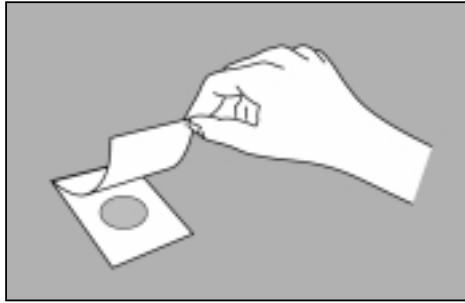

Figure 2
2. Place the Petrifilm plate on a level surface, with the gridded side down. Lift the top film (fig. 2).